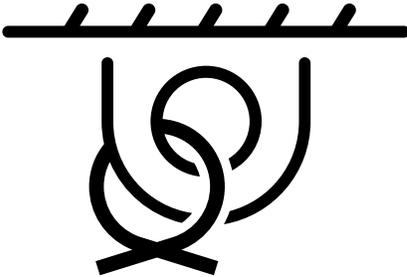

Figure 4. Tie-Down Symbol
1. Locate the tie-down symbols (Figure 4) on each side of the trowel.